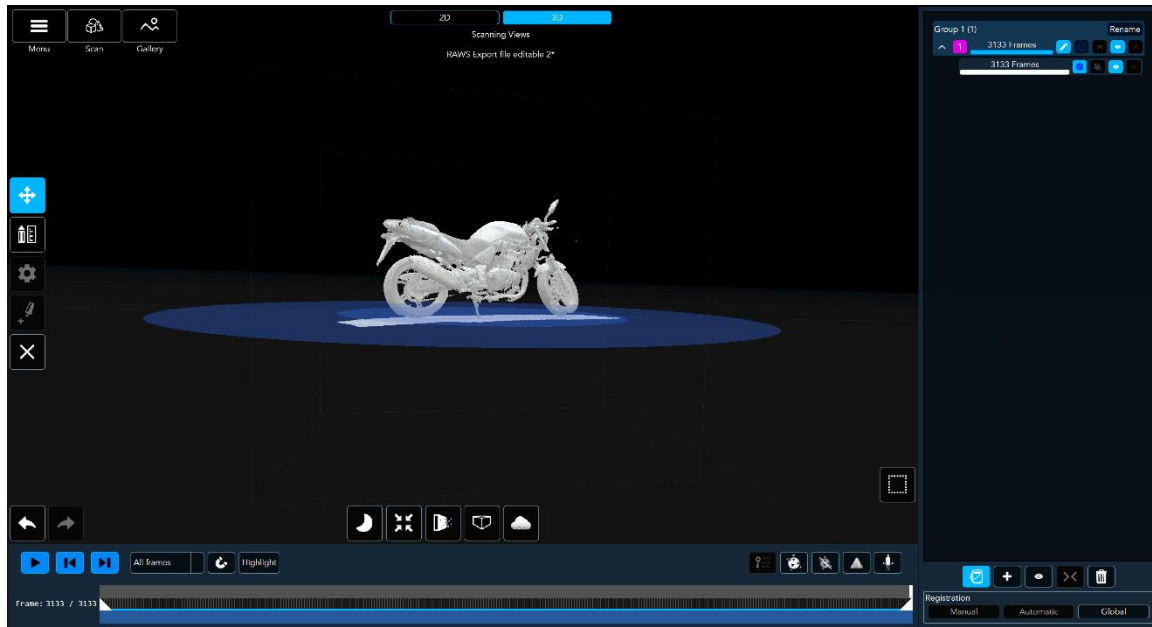

Figure 129 – Gallery View Mode – Edit Page – Object Aligned to Ground Plane
- II. **Move/Rotate/Zoom** the image until it is aligned over the **Ground Plane** (see Figure 129 below) properly.